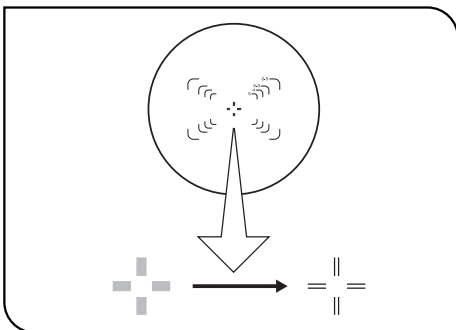

Fig. 14
1. Looking through the right eyepiece with your right eye, turn the eyepiece top ring until clearly defined double crosslines can be seen in the field of view. (Fig. 14)